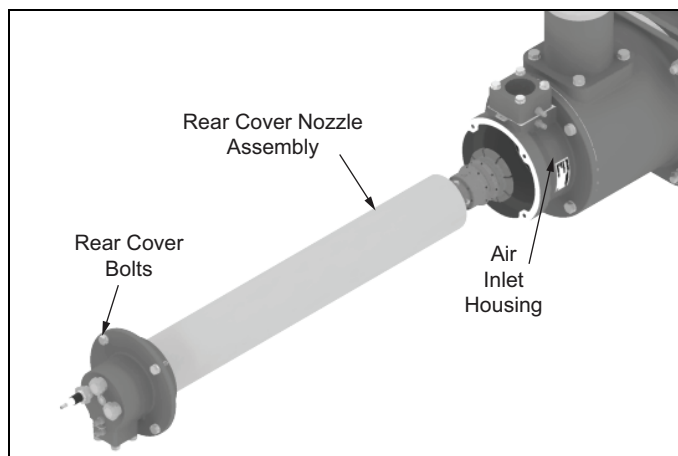

Figure 3.18
4. Slide the rear cover nozzle assembly through the air inlet housing and into the combustor assembly. See Figure 3.18.